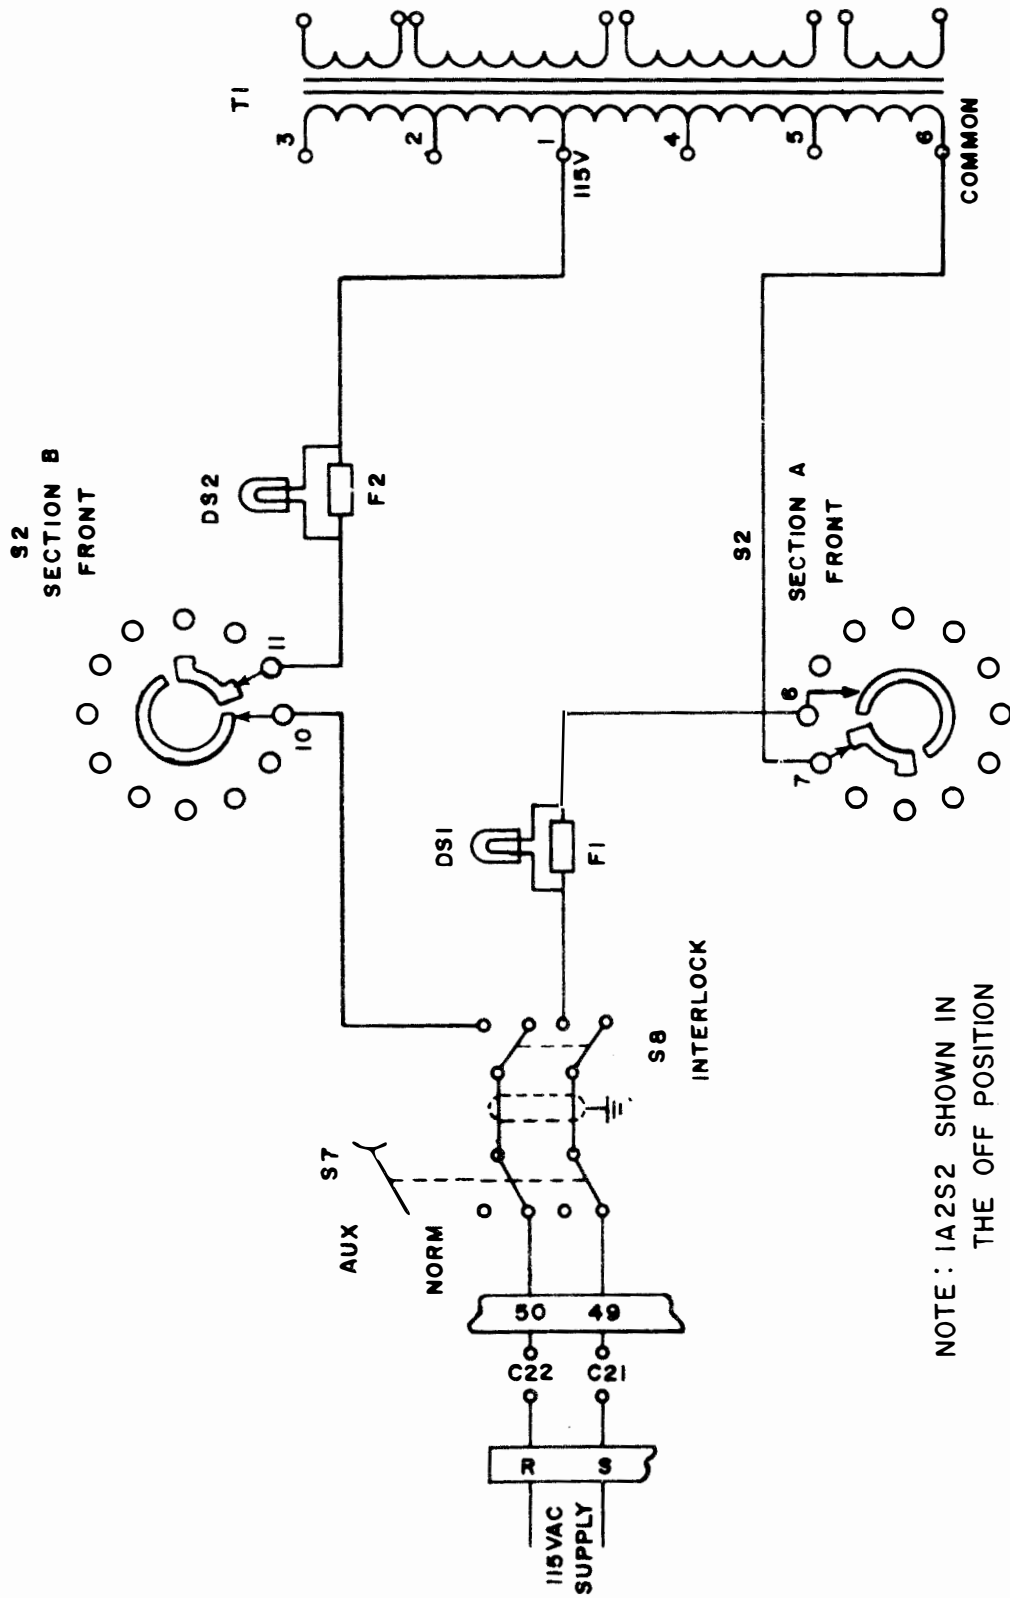

FIGURE 1
- B. Trace the power distribution of all AC and DC voltages using the chassis and mainframe schematic diagram of the R-1051B/URR in the Student Guide Volume 3. Figures 1 thru 8 will aid in locating the circuits on the schematic diagram. All power is derived from the 115 VAC line connected to 1A1J3 on the rear of the case. The power supply consists of the +110 VDC, +28 VDC, -30 VDC, regulated +20 VDC, 6.3 VAC and +4 VDC power supplies.
1. Using a black and red pencil or fine point felt tip pen and Figure 1 color code the 115 VAC input to the R-1051B.